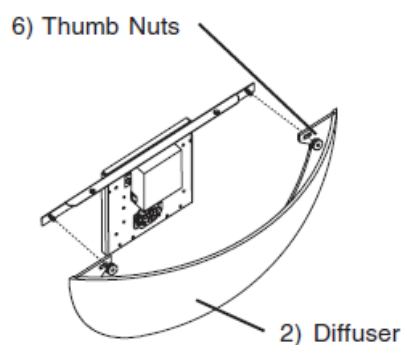

Fig 10
3. Align slots in back of Diffuser (2) with screws on bracket and secure with Thumb Nuts (6) as shown in Fig 10.